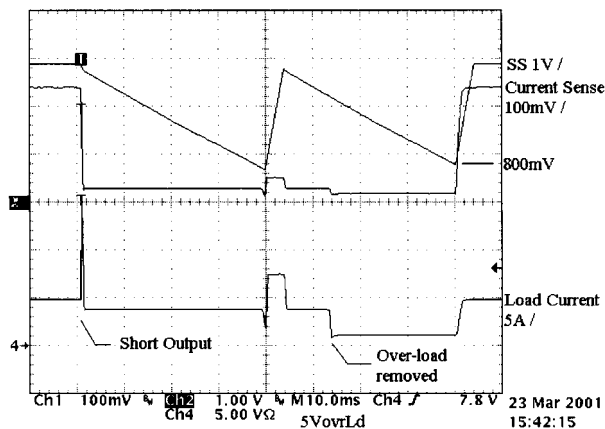

Figure 10. Over-Load Current and Soft Start Waveforms
A typical overload scenario is shown in Figure 10. The top trace is the voltage on the Soft Start (SS) pin. The initial high discharge rate can be seen transitioning to a 40 ms discharge period. During this period the I_{SET} establishes a lower current limit level. The bottom trace shows the output current. The initial current spike is the output capacitors discharging. The next level around 4.0 A is the short circuit current level set by the I_{SET} current. The output then turns off allowing the current to reduce to a level that does not cause overcurrent pulses. This releases the SS pin to ramp back up. During ramp up, the output is still shorted as noted by the 8.0 A current level. When SS reaches the 2.9 V level, the short is again recognized and I_{SET} is turned back on shifting the short circuit current level.